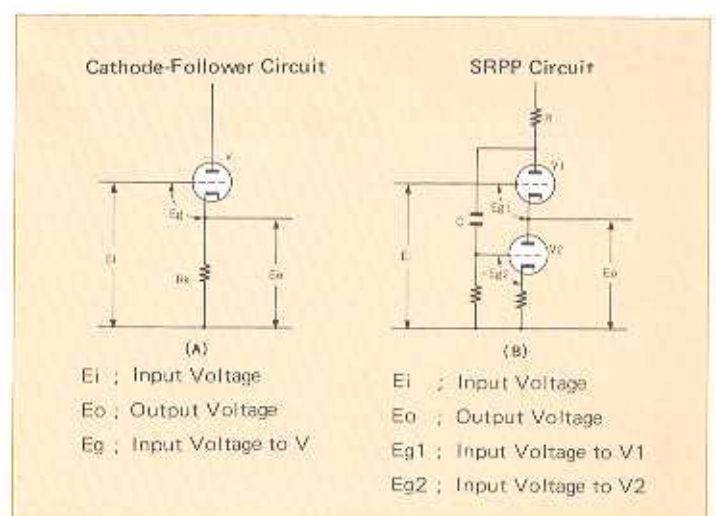

Fig. 2
Fig. 2 (A) shows conventional cathode-follower and (B) shows the SRPP circuit adopted in the CL32. For the SRPP circuit, V2 is placed instead of the cathode-follower R_k . And the grid of V2 is controlled by the reverse-phased input from the V1 output voltage, therefore this circuit configuration can be regarded as a sort of cathode-follower.